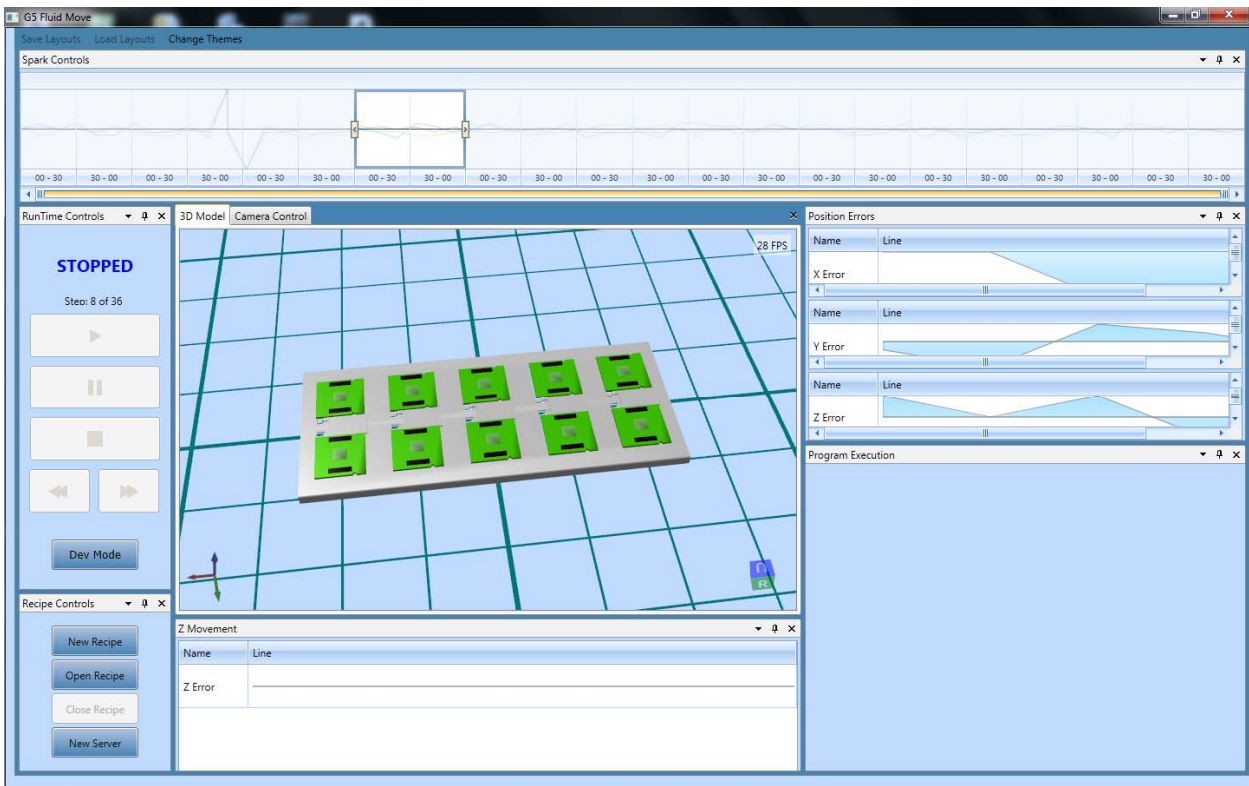

Fig.2 (GUI Development mode)
- All configuration is done through the development GUI (see fig.2)